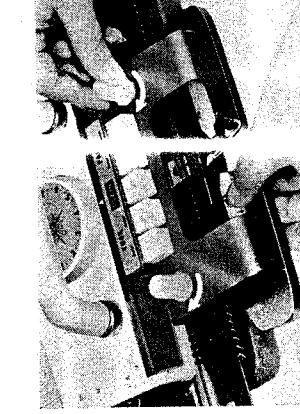

Fig. 14
- h. Take out the sinker plate assembly from the carton case. Loosen the plastic thumb screws of carriage, insert the sinker plate assembly as far as it will go and fasten the thumb screws securely. (See Fig. 14)